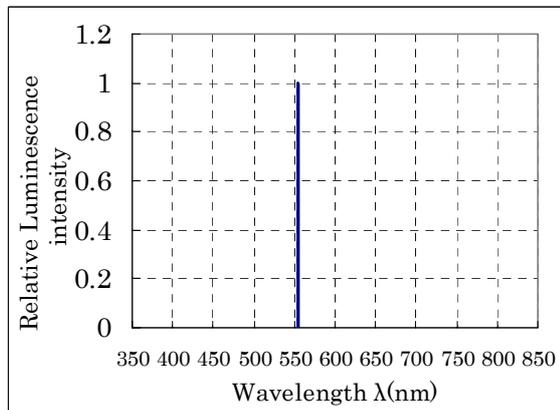
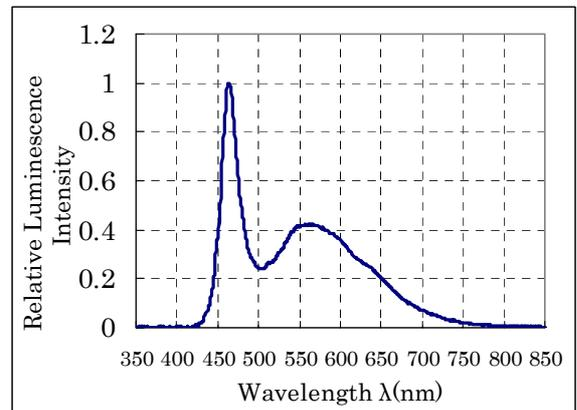

Figure 1: Spectrum Distribution
Figure 2: Spectral Distribution
As shown in Figure 1, monochromatic light can be defined as a single wavelength. In comparison a white LED has a distributed spectrum as shown in Figure 2.
a) The standard luminous efficiency coefficient of 600nm is 0.631. (Refer to Figure 1)